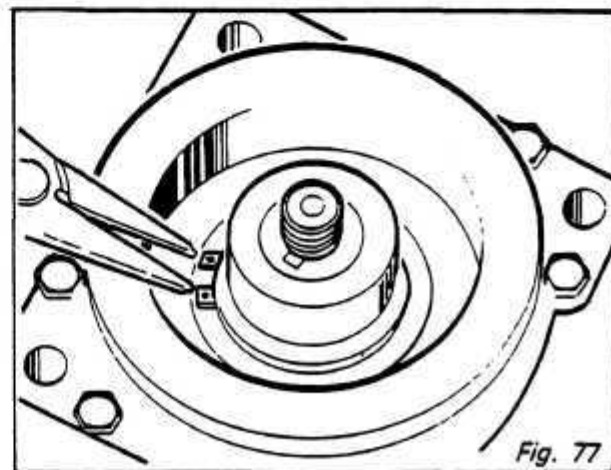

Fig. 77
- Using snap ring pliers (Spread type), remove snap ring and field coil. *Fig. 77*